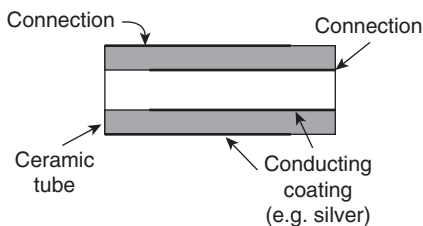
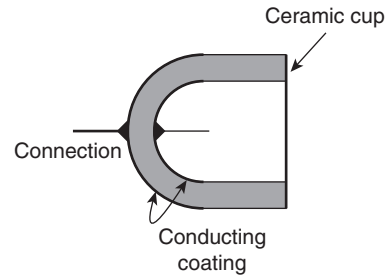
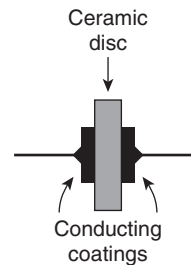

Figure 6.17
Figure 6.18
Figure 6.19
4. **Ceramic capacitors.** These are made in various forms, each type of construction depending on the value of capacitance required. For high values, a tube of ceramic material is used as shown in the cross section of Fig. 6.17. For smaller values the cup construction is used as shown in Fig. 6.18, and for still smaller values the disc construction shown in Fig. 6.19 is used. Certain ceramic materials have a very high permittivity and this enables capacitors of high capacitance to be made which are of small physical size with a high working voltage rating. Ceramic capacitors are available in the range 1 pF to 0.1 μ F and may be used in high frequency electronic circuits subject to a wide range of temperatures.